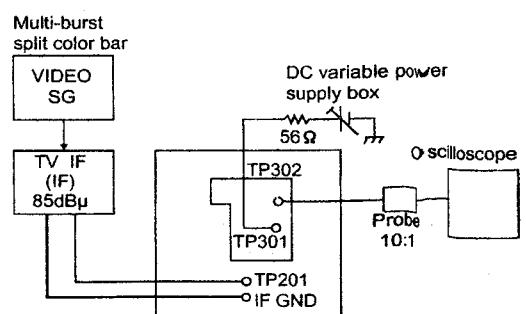

Fig.6
1. Connect the measuring equipment as shown in Fig.6.